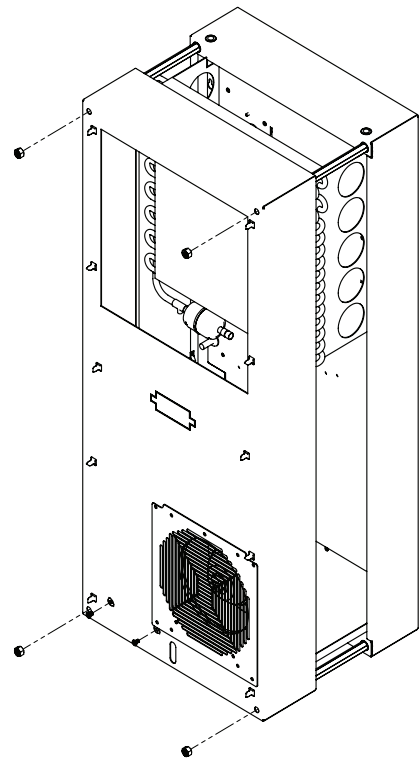

Figure 4
4. Remove the four nuts on the front panel and pull the panel assembly forward approximately 5 cm. See Figure 4 on page 9.